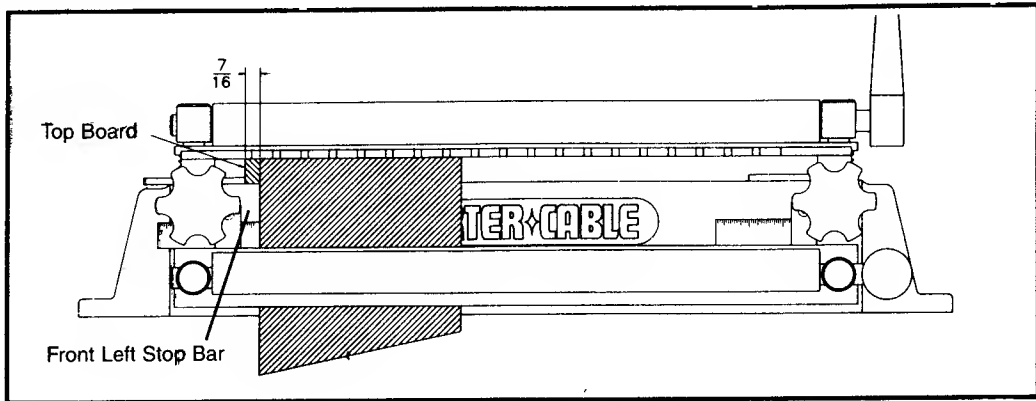

Fig. 9
6. Loosen front clamp and raise left side of drawer so that it touches bottom of templet $\frac{7}{16}$ " (see Fig. 9), from left edge of top board and clamp in place.